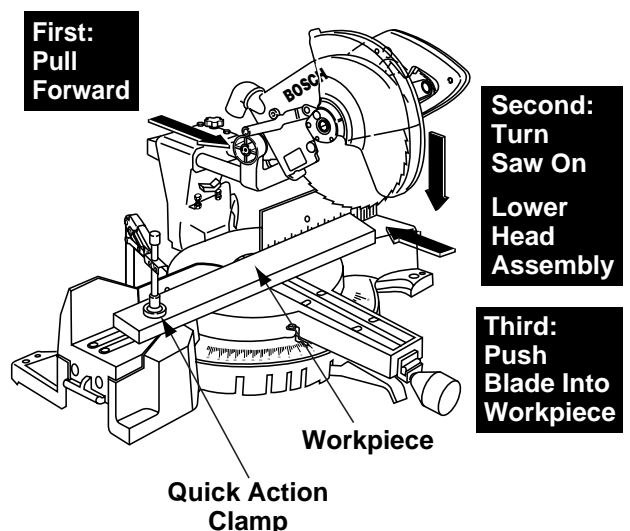

Figure 28. Slide Cut
3. Grasp the switch handle and pull the head assembly away from the fence, until the blade clears the workpiece or to its maximum extension if blade cannot clear the workpiece (Figure 28).